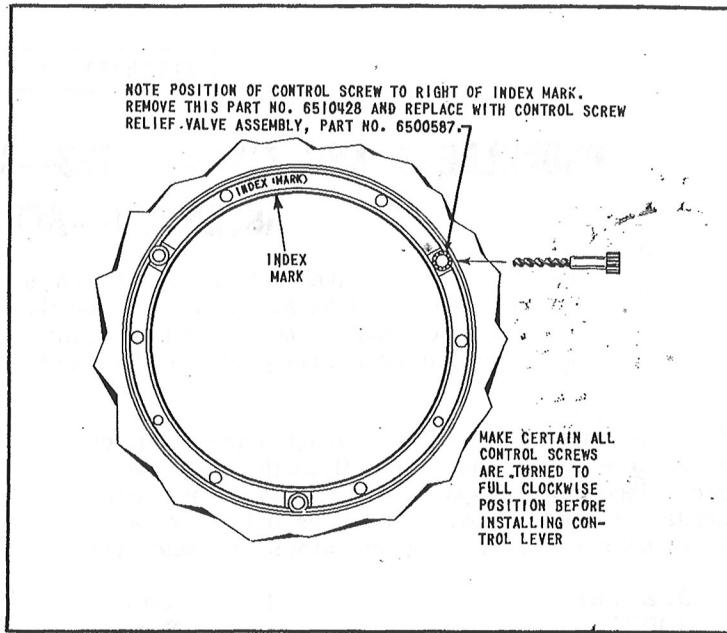

Figure 3
- f. Select the control screw which is the one to the right of the index mark on the adapter ring. Remove the control screw by turning it in a counterclockwise direction. (See figure 3.)
- g. Install the control screw relief valve assembly, part No. 6500587, replacing the removed control screw, part No. 6510428. Turn the screw clockwise to install. (See figure 3.)